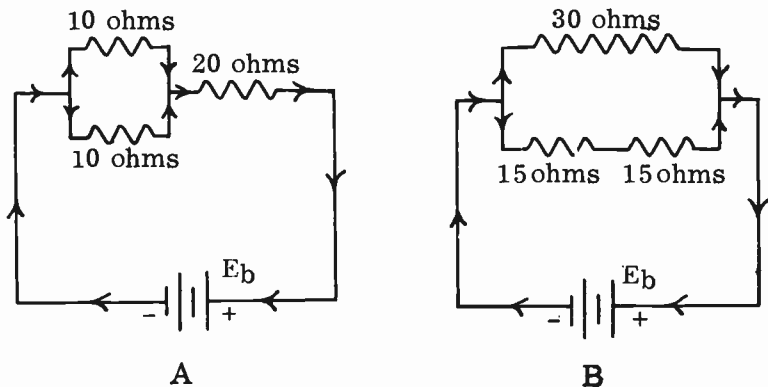

FIG. 2-8. SERIES-PARALLEL CIRCUITS.
**SERIES-PARALLEL CIRCUITS.** Circuits A and B of Fig 2-8 are called **SERIES-PARALLEL** circuits. In circuit A, the 10-ohm resistors are in parallel with each other. But, this parallel combination is in series with the 20 ohm resistor. The total resistance of circuit A is computed as follows: